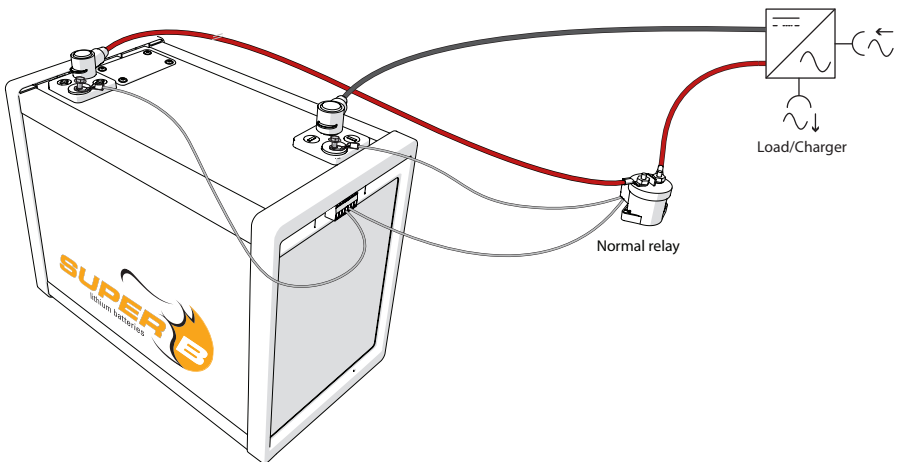

Figure 6. Connect a normal relay as an external disconnect device.
1. When using a normal relay, connect it to Con 2 (I/O Connection 7), Pin 4 (Rc) and Pin 5 (Rnc) as displayed in figure 6.